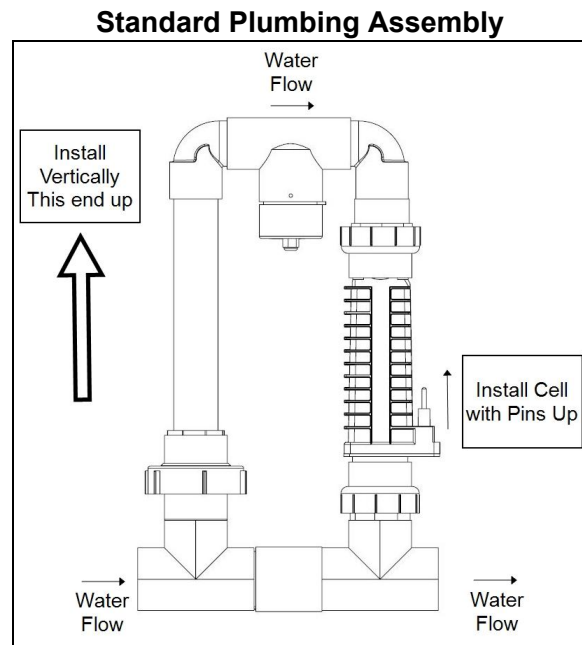

Figure 3
- The manifold must only be installed in the vertical position as indicated. See **Figure 3**. This orientation prevents hazardous gas buildup in the system, should the flow switch fail to detect insufficient flow. The direction of the water flow through the manifold must be as indicated for the system to operate properly.